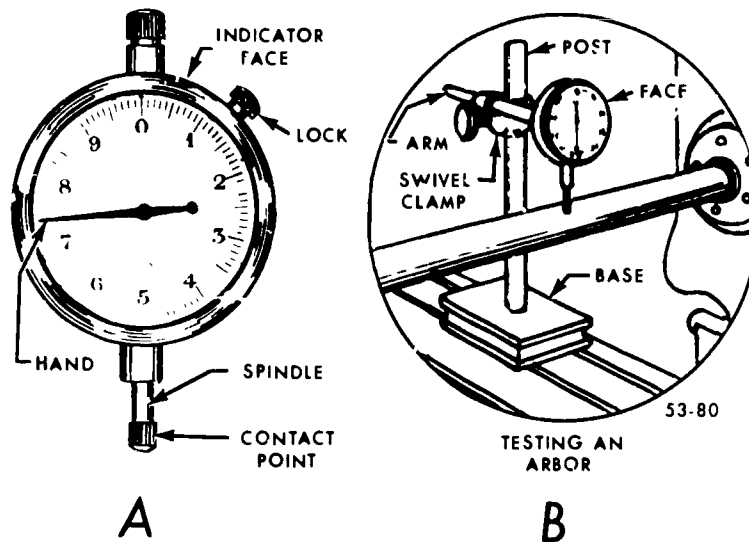

Figure 5-18. Dial indicator.
**Exercises (036):**
**Dial Indicators.** A dial indicator, shown in figure 5-18, is a precision instrument that is used to determine the smoothness or concentricity of a surface. The linear movement of the spindle is amplified by a gear train and is translated into rotation of a pointer over a
graduated dial so that a spindle movement of a thousandth of an inch or less can be read on the dial. The scale on the dial reads both to the right and left of zero and thus indicates when you have properly adjusted the instrument to the work. Part B in figure 5-18 shows a dial indicator set up for checking an arbor.